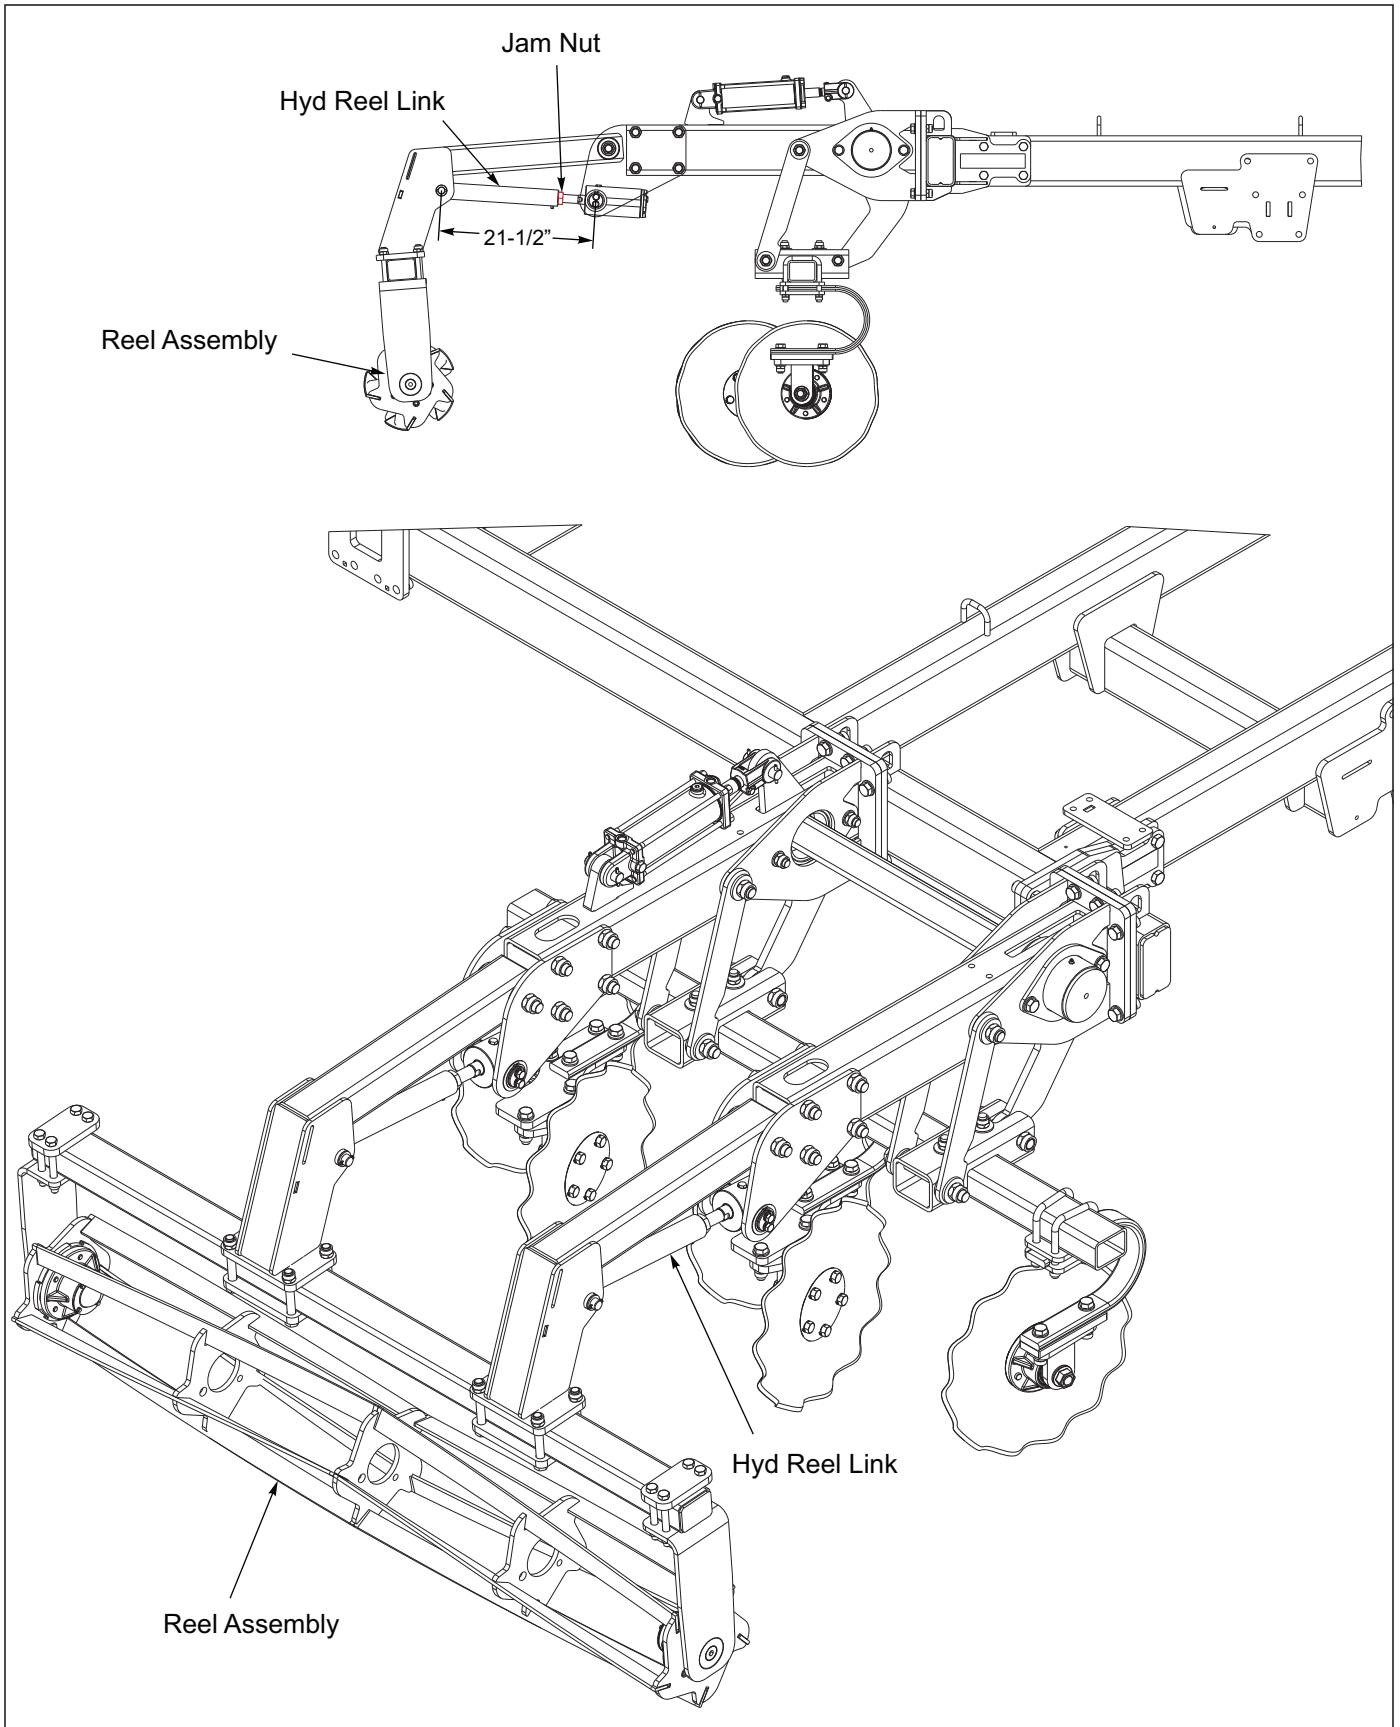

Figure 4-14: Hyd Disc Lev/Reel Adjustments
7. The reel assembly cylinder and link are set at 21-1/2" See Figure 4-14. This measurement should not need adjusted. The reels can be hydraulically raised if needed to prevent plugging in adverse conditions.